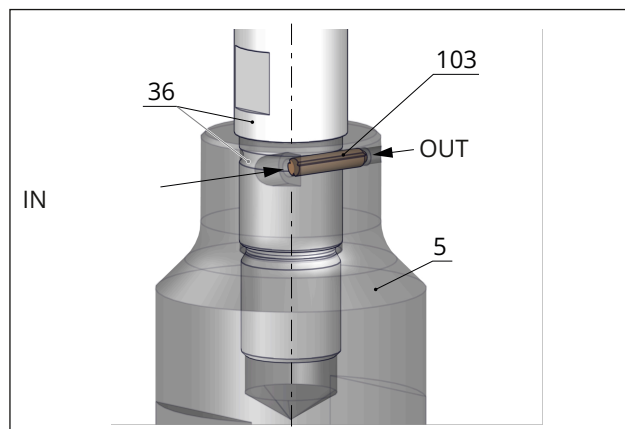

Fig. 37: Locking pin to secure plug and plug stem or piston and piston stem (schematic drawing)
The plug/piston and plug/piston stem are fastened together. To prevent the plug/piston from becoming unintentionally detached from the plug/piston stem, the connection is additionally secured by a tangentially inserted pin (see Fig. 37). To replace the plug/piston, proceed as follows:
1. Firmly clamp the plug/piston (5) into a vise.
2. Use a suitable tool (mandrel) to drive the locking pin (103) out of the plug or piston in the "OUT" direction (see Fig. 37).
3. Unscrew the plug/piston stem (36) from the plug or piston (5) using a suitable tool.
5. Firmly clamp the new plug/piston (5) into a vise using protective jaws. Make sure that the plug/piston is not damaged by the vise.
6. Screw the plug/piston (36) into the plug or piston (5) and tighten using a suitable tool. Observe tightening torque.
7. Insert a new locking pin (103) into the hole in the plug or piston in the "IN" direction. Use a suitable tool (mandrel) to drive the pin in as far as it will go.